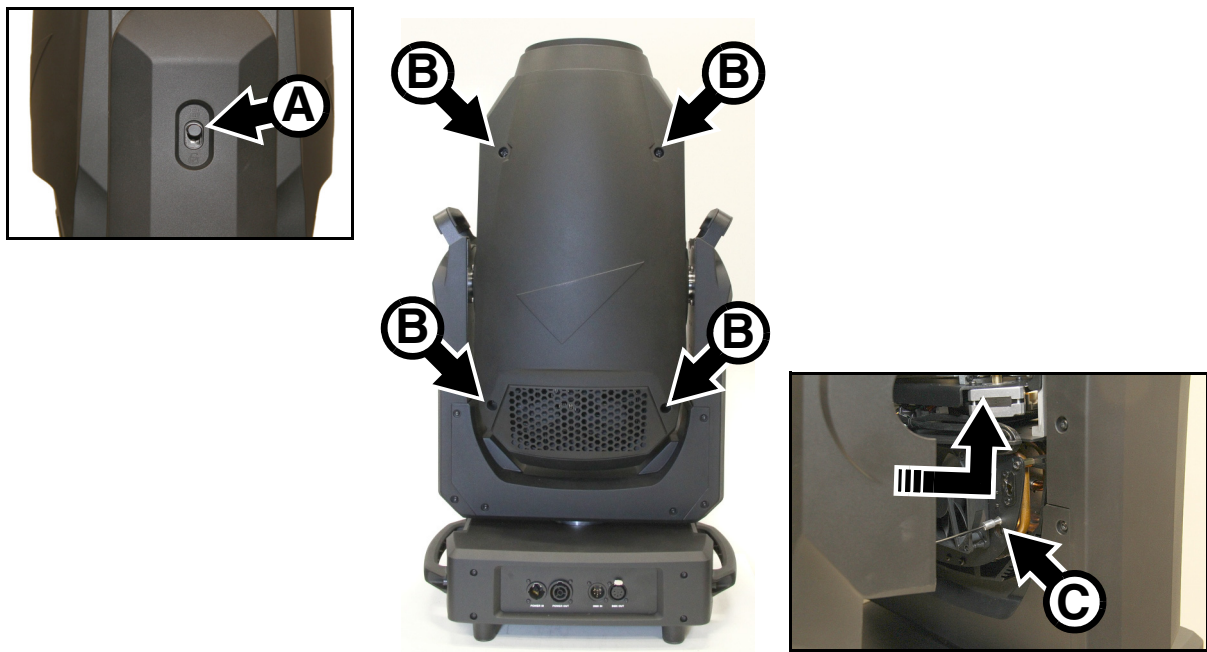

Figure 10: Removing the head covers
3. See Figure 10. Apply the tilt lock **A**.